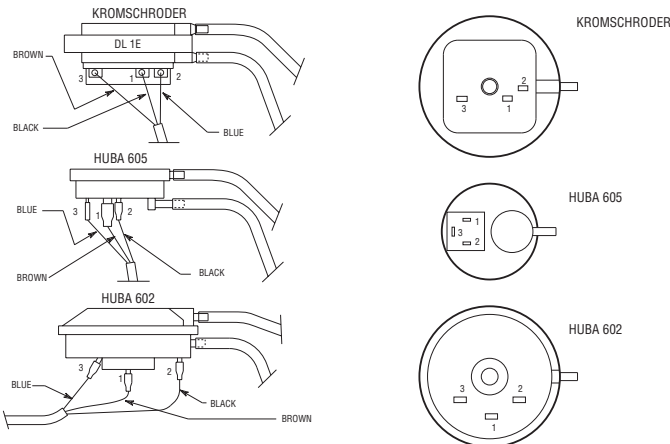

Fig. 46
- f) Re-assemble in reverse order (refer to fig. 46 for wiring).